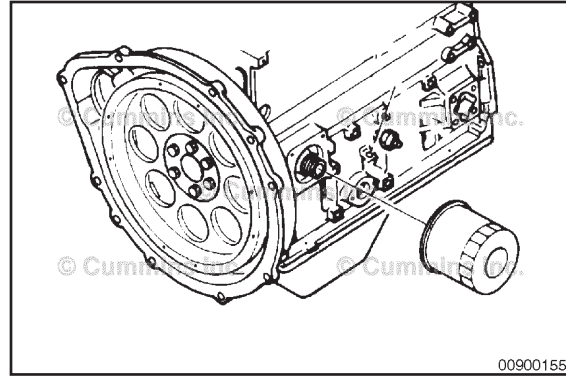

Fig. 105
- Unscrew the filter cartridge (Fig. 105) using an appropriate filter wrench.